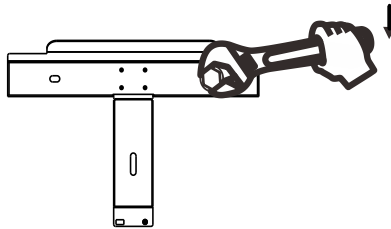

Figure 4.9 Fastening the mounting bracket onto the supporting structure
- ② Step 2 : Fasten the mounting bracket onto the supporting structure with 3 sets of M12*40 SEMS screw, washer, and nut as shown in Figure 4.9. Torque: 42N•m,